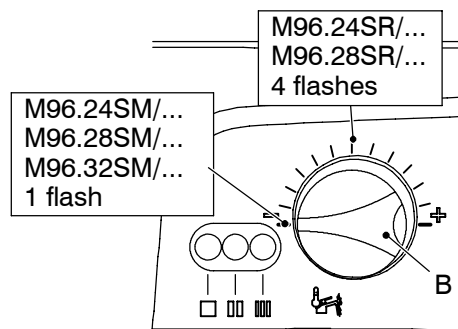

Fig. 39
At this step it is possible to visualize the current setting by keeping the reset button C pressed for more than 5 seconds. The lamps E will flash a number of times corresponding to the setting (Fig. 39).
- 7 To change the setting turn the knob B on a position corresponding to the boiler models (Fig. 39). By turning the knob B, the lock-out signal lamp D blinks quickly (2 per seconds) indicating that the setting has changed and must be memorised.